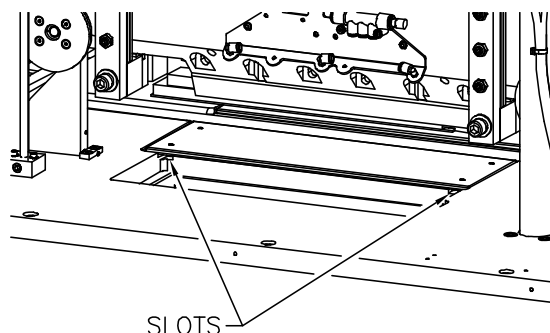

Figure 4-5. Slots Under Cut Plates
2. Switch off (O) main power at the front of the trimmer and lock out the main power disconnect switch as described in section 1.6 Power Lockout Procedure on page 1-4.
5. Lift and wiggle the edge of the cut plate until it slides off the four pins in the table. If necessary, slide the end of a flat-blade screwdriver between the slot in the table and the cut plate (Figure 4-5). Carefully pry the plate up with the screwdriver. Alternate between each of the two slots until the cut plate is free.